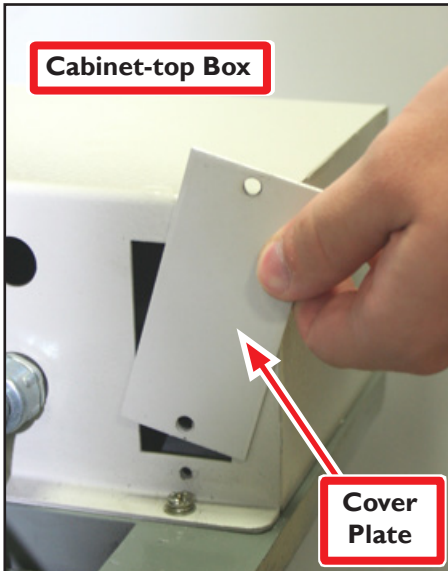
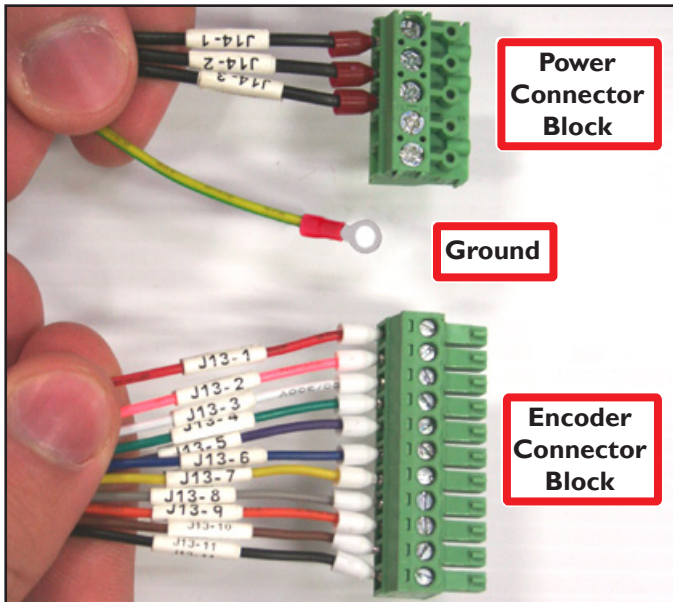

Figure 11
Figure 15
10. To begin routing the Power and Encoder ends of the harness into the electrical cabinet, remove cover plate from the Cabinet-top Box (see **Figure 11**); set the two mounting screws aside.
**NOTE:** Lathe serial numbers 10025 and lower do not have a removable cover plate (see **Figure 11**). To allow Power and Encoder wire access to the electrical cabinet, lathe owners with these serial numbers must carefully remove the cover of the Cabinet-top Box and drill two 5/8" holes in the side of the box. Be careful not to damage wires when drilling or allow metal shavings to enter electrical cabinet. Once holes are drilled, remove connector blocks and conduit fitting nuts from harness; discard plate provided with kit. Secure conduit fitting nuts inside Cabinet-top Box. Reconnect connector blocks as shown in **Figure 15**.
14. Check to ensure the Encoder Connector Block wires are in sequential order (see **Figure 15**).